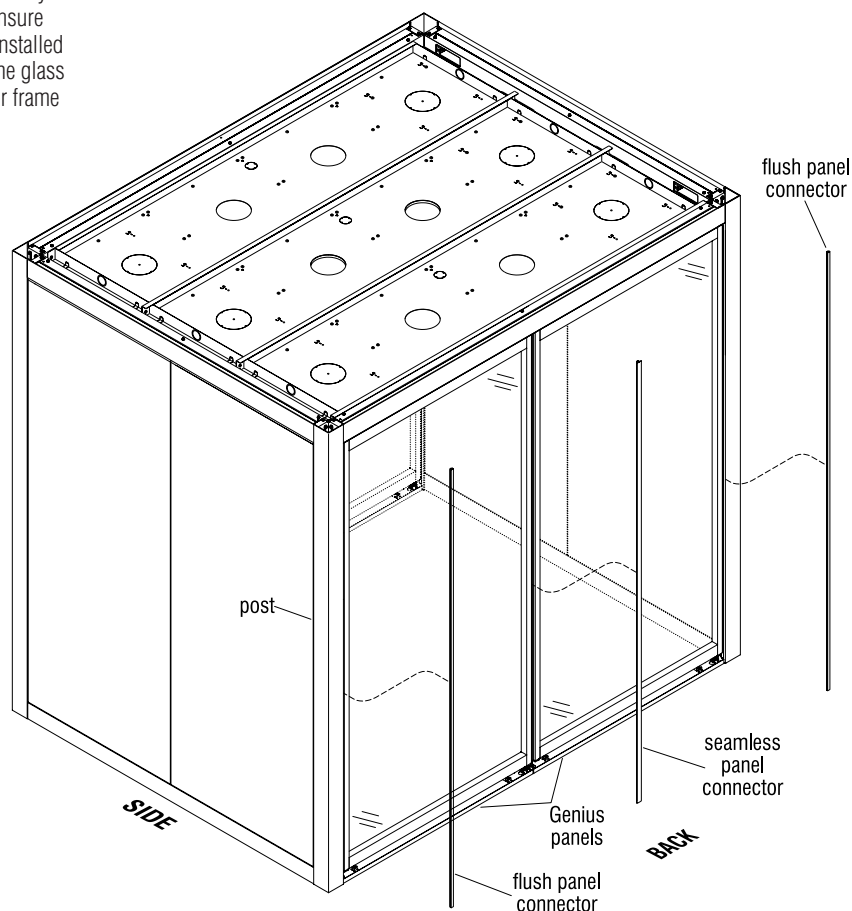

Figure 5 - Genius Flush Connector
**Important:** Genius panel frames are joined together (panel-to-panel) using a seamless panel connector. Genius panels join to corner posts (panel-to-post) using flush panel connectors, both types install both inside and outside of the super structure (Figures 5 & 6).
**Note:** Both the seamless panel connectors and the flush panel connectors install in a similar manner. See figures 5 & 6 to determine the correct location for both types of panel connectors for your super structure layout.
9. Before installing any flush, or seamless panel connector, first assure that the panel frames are plumb to each other and to the corner posts. Also assure that a  $\frac{1}{16}$ " gap is between each panel-to-panel frame connector and that the same  $\frac{1}{16}$ " gap is between each panel-to-post connector (Figures 5 & 6).
10. Beginning at the top of any panel-to-panel, or panel-to-post to be joined, insert the appropriate panel connector into the gap and use a thumb, or nylon block with mallet and work the panel connector in carefully and evenly from the top to the bottom. Install a panel connector to the inside and outside of each location (Figures 5 & 6).